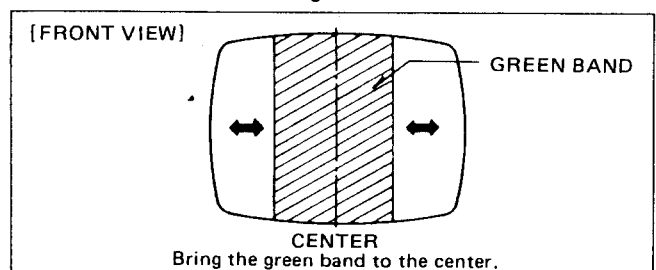

Fig. 2-3
5. Rotate the PURITY MAGNET TABS in the opposite directions and with them kept at an angle, together in either direction so that the green band is centered on the picture tube. (Fig. 2-3)